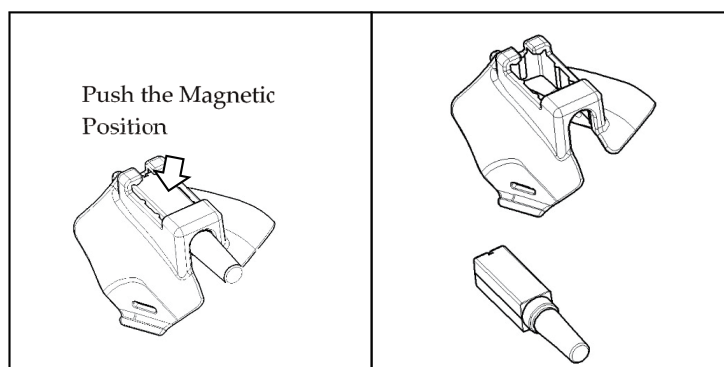

Figure 9 How to release Magnetic Position Sensor from the attachment
- (2) Release the magnetic position sensor from the magnetic position sensor attachment as shown in Figure 9.